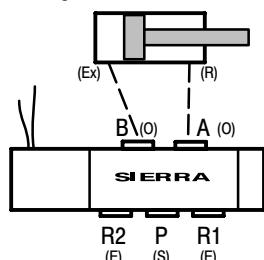

Figure 1 / Figure 1 / Figura 1
- Outlet ports A and B must be connected to a device (double acting cylinder, gauge etc.). R2 port is exhaust when A port is pressurized. R1 port is exhaust when B port is pressurized (figure 1).